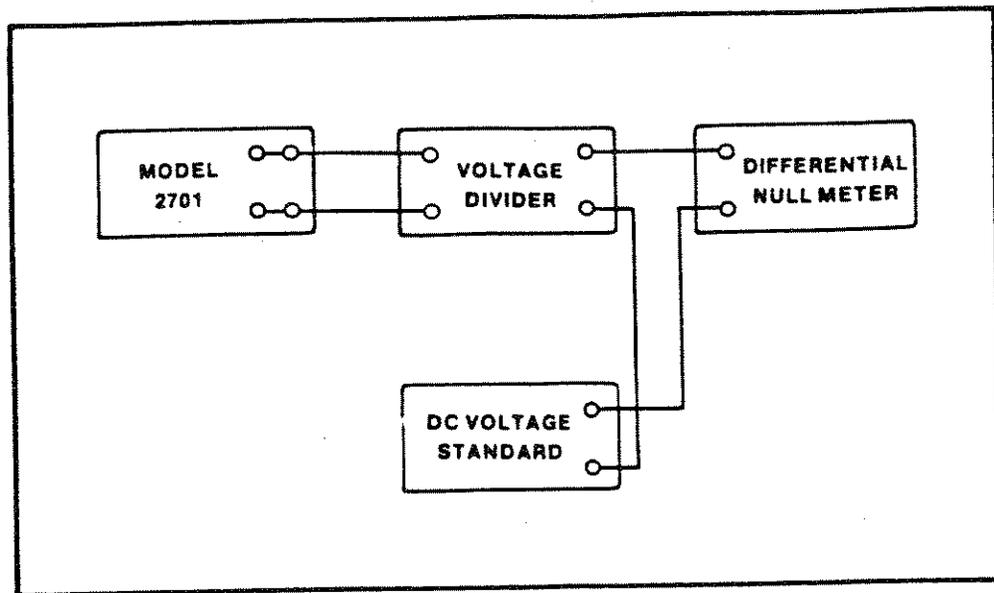

Figure 5-1. Test Equipment Connections.
other equipment is used, connect it to the 2701B as in Figure 5-1. Verify that the sense terminals of the Model 2701B are strapped to their respective output terminals.
5.9 Connect the 2701B per Figure 5-1. Apply power to the 2701B, ensure the 2701B is in standby and in the 1.2V range. Allow 1 hour for warm up stabilization. Note: Keep 2701B Top Cover in place during calibration.
5.23 Reconnect the test equipment as in Figure 5-1.